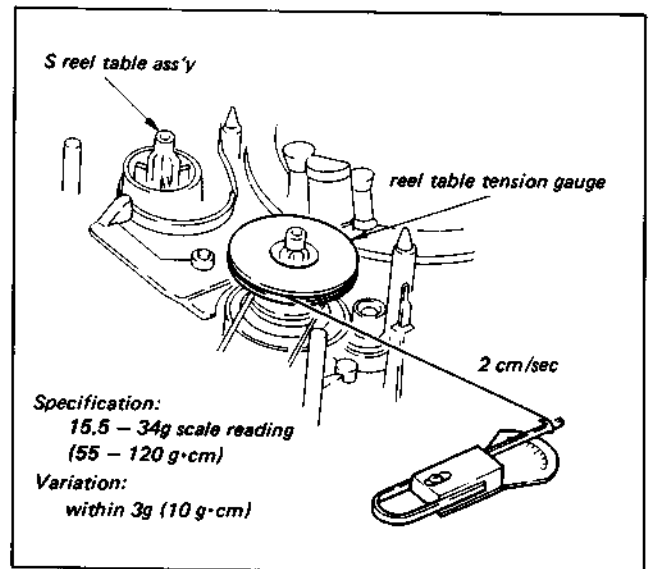

Fig. 3-44. Take-up torque check
- 4) Attach the reel table tension gauge (Ref. No. J-4) on the take-up reel table as shown in Fig. 3-44.
- 7) Bring the sector type gauge toward the take-up reel table at a speed of approximately 2 cm/sec. as show in Fig. 3-44. Confirm that the gauge reading is within the specification. If not, replace the FWD limiter assembly (A-6740-072-0) and make the check again.